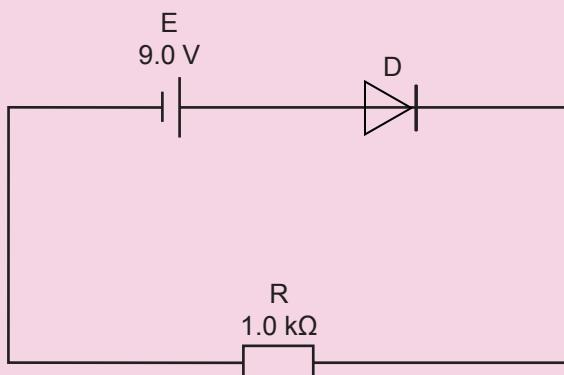

Figure 7.24
2. Calculate the current in the circuit shown in Figure 7.24 using the simplified diode model with $V_F = 0.7$ V.